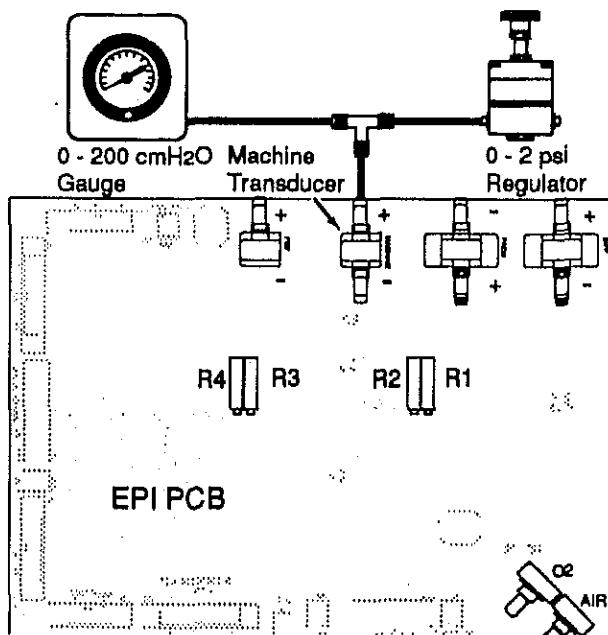

Figure 5-5
7. Connect the Machine Transducer as shown in Figure 5-5 and apply 120 \pm 5 cmH₂O pressure.